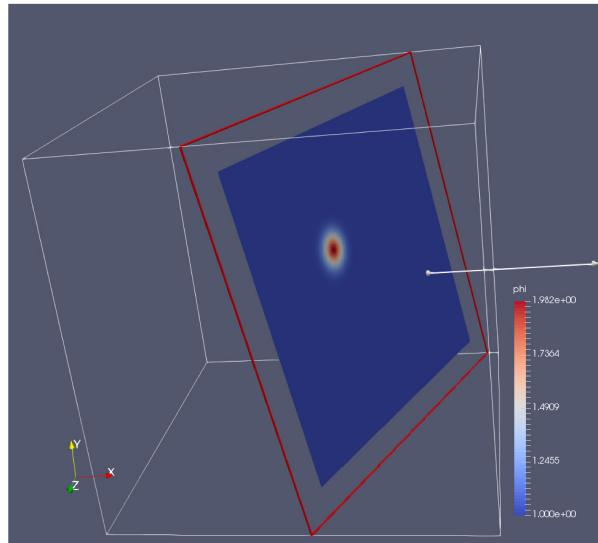

Fig. 15.1: : Plotfile image generated with ParaView
7. You can play with the Plane Parameters to define a plane of data to view, as shown in Fig. 15.1.